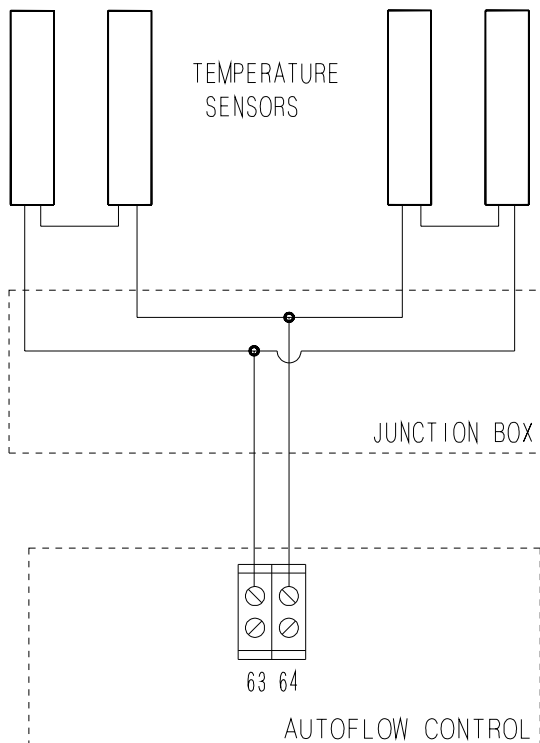

Figure 12.
2. Make wire connections as shown in Figure 12.